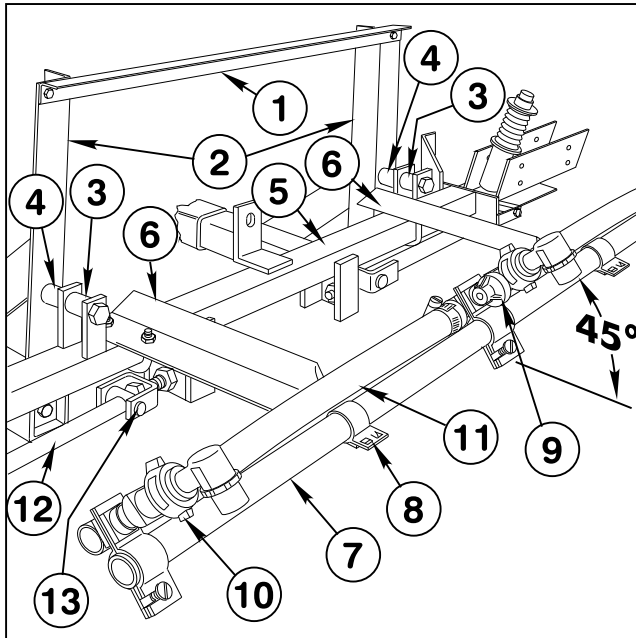

FIG. 6
- 3. Position the Spacer Tubes between the Boom Mount uprights and the lugs on the Main Frame Tube. Use two 1/2" x 4" hex hd cap screws and lock nuts to secure the Main Frame Tube to the uprights. See FIG. 6.
5. Position the two Center Boom Angles on the Main Frame Tube as shown in FIG. 6 and secure them to the Frame Tube with 2 square "U"-bolts, flat washers, and lock nuts.
7. Loosely attach the Triple Barb Nozzle Assembly in the approximate center of the Center Boom Pipe. For the most uniform spray coverage, position all Nozzle Assemblies at a 45° angle as shown in FIG. 6. Tighten clamp screw to secure the Nozzle to the Boom Pipe.
Frame tube with two (2) 1/2" x 2" clevis pins and two (2) 1/8" x 1" cotter pins. See FIG. 6.
13. Adjust the Booms to a level position by adjusting the jam nuts on the adjustable clevis assemblies (see FIG. 6) to the desired position, then tighten the jam nuts against the Main Frame plate.